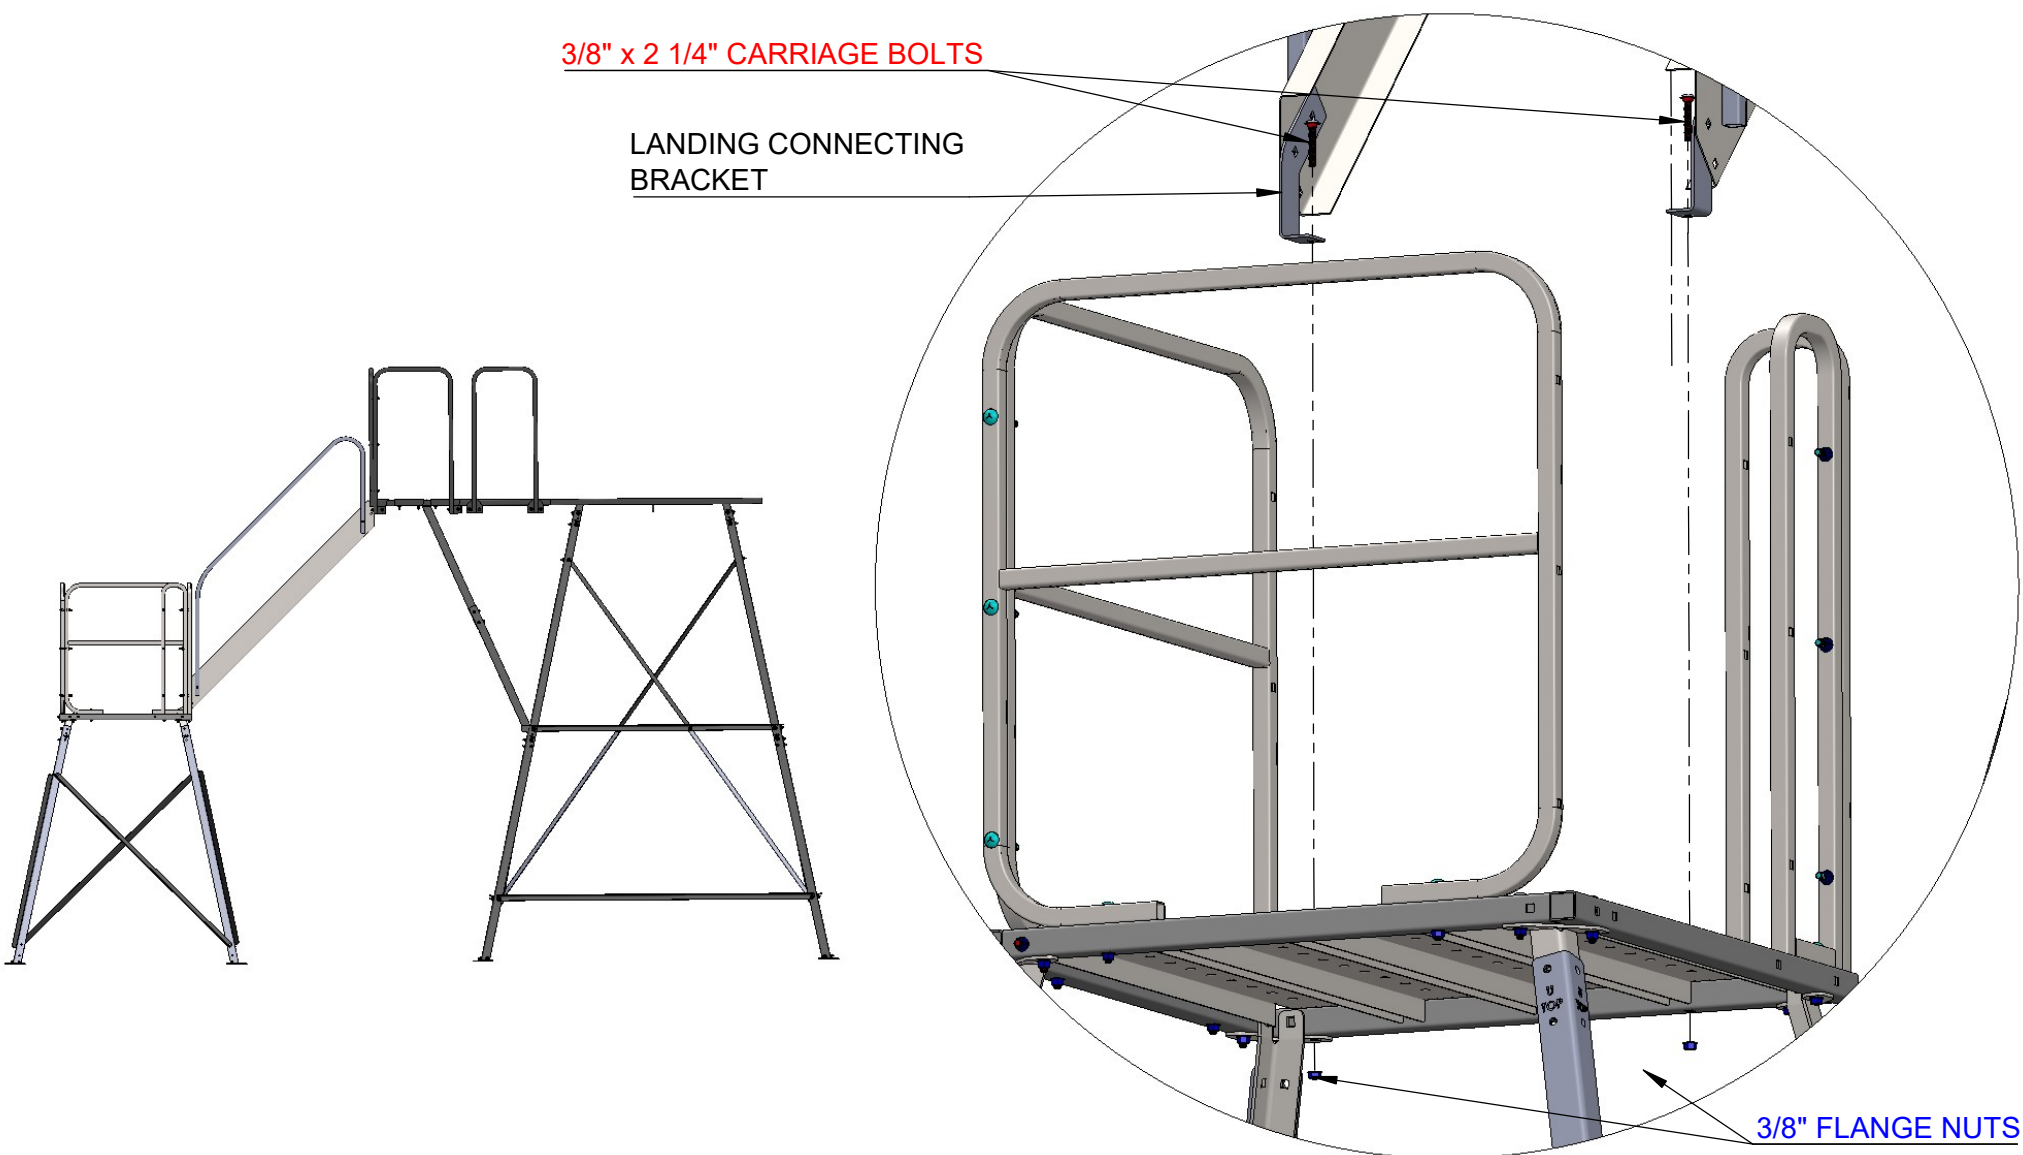

FIGURE 8.3
- ASSEMBLE THE UPPER STAIR TO TURN PLATFORM USING 3/8" x 2 1/4" CARRIAGE BOLTS AND 3/8" FLANGE NUTS AS SHOWN IN FIGURE 8.3